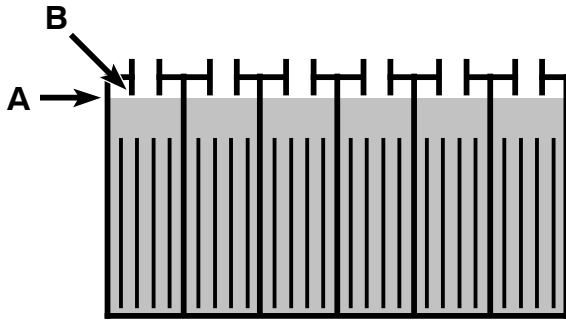

FIG. 20
- After charging, check the electrolyte level (A) again. The level should be approximately 1 cm from the bottom of the fill- port (B) (Figure 20). Add distilled water if needed. **DO NOT OVERFILL.**